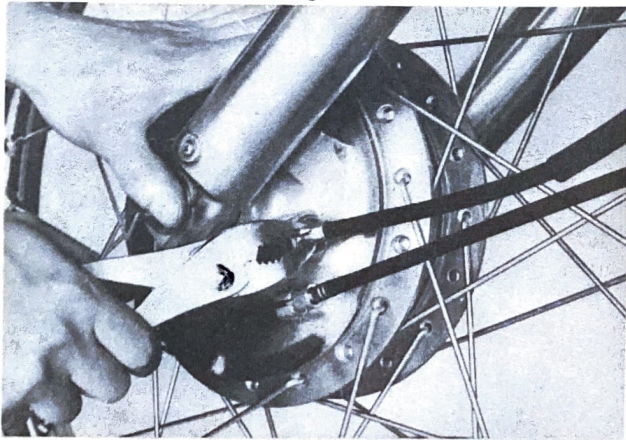

Fig. 15
- b. After setting the meter cable end correctly in the gear unit, fit the circlip (attached to the cable) in the groove around the wheel hub. (Fig. 15)